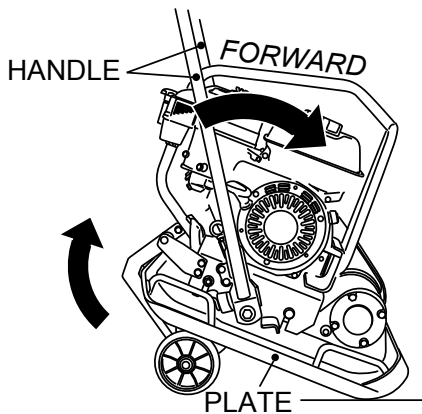

Figure 13. Tilting the Compactor
1. Push compactor handle forward tilting the compactor then pull out axle from under the plate (Figure 13).